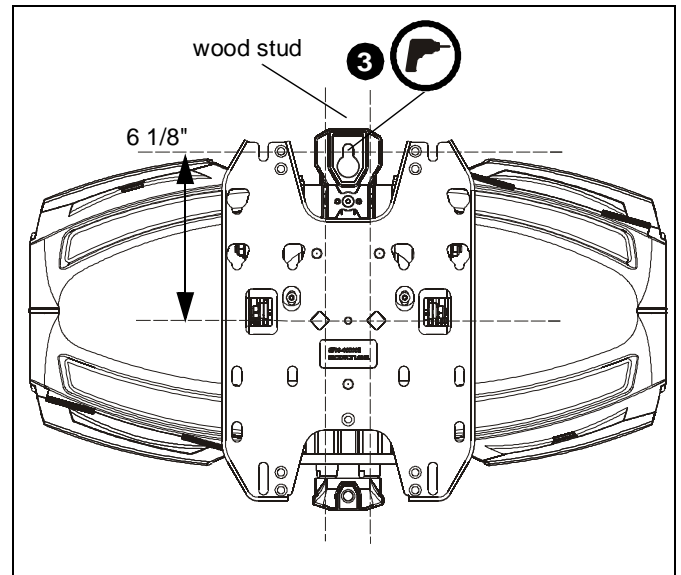

Figure 12
2. Measure 6 1/8" above desired center line and mark a hole at desired mounting location on the center of wood stud. (See Figure 12)
**NOTE:** Hold mount up to wall at desired mounting location if unsure about where the center line will be. The center line of the mount will coincide with the center line of the display. (See Figure 12)
**IMPORTANT ! :** Use a level to make sure main assembly (M) is level when mounted to the wall!
3. Drill one 13/64" hole at location marked in Step 2. Hole should be 2" in depth. (See Figure 12)